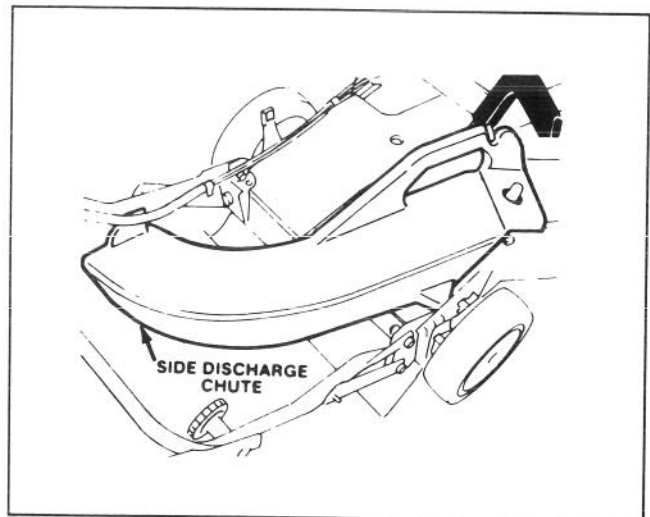

Figure 31
1. **Side Discharge Kit, Model No. 59168**—Installs in seconds. Rear mounted in place of the grass bag. Disperses clippings while trimming on both sides (Fig. 31).